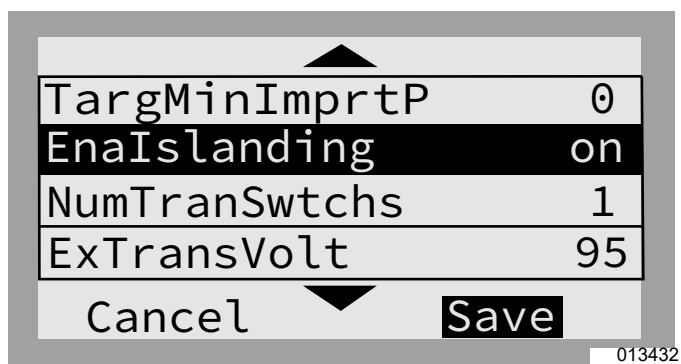
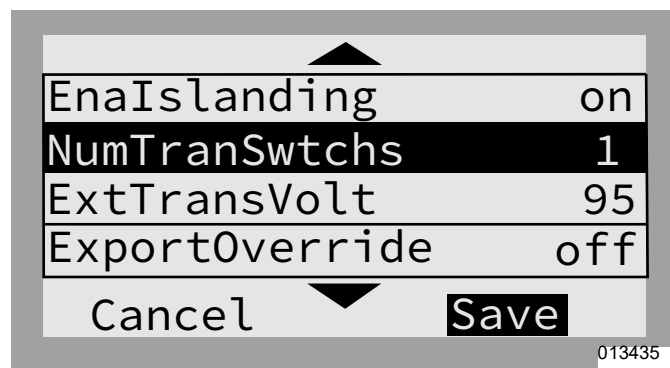
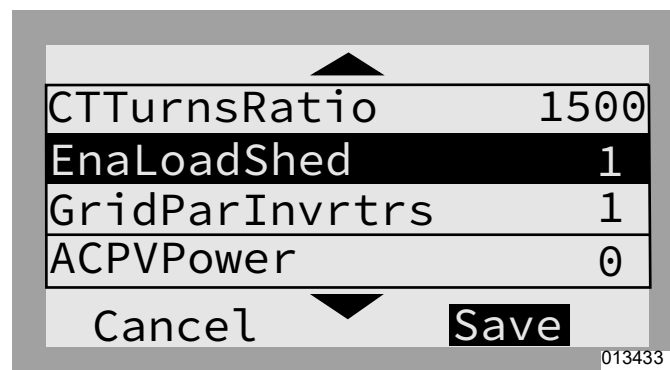

Figure 7-19. PV + Storage - Whole Home (1 of 3)
Figure 7-20. PV + Storage - Whole Home (2 of 3)
Figure 7-21. PV + Storage - Whole Home (3 of 3)
- See Figure 7-19, Figure 7-20, and Figure 7-21. Inverter “Mod. Settings:”